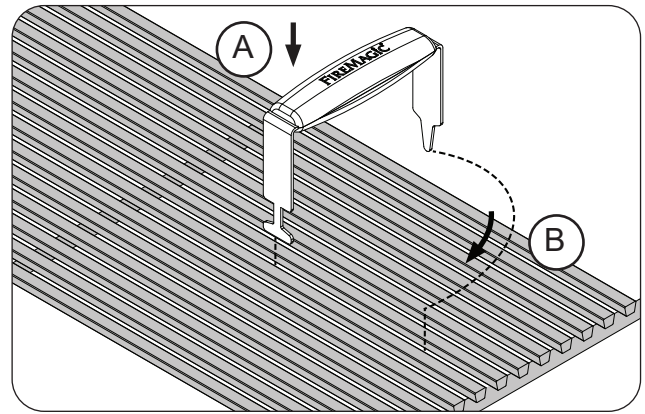
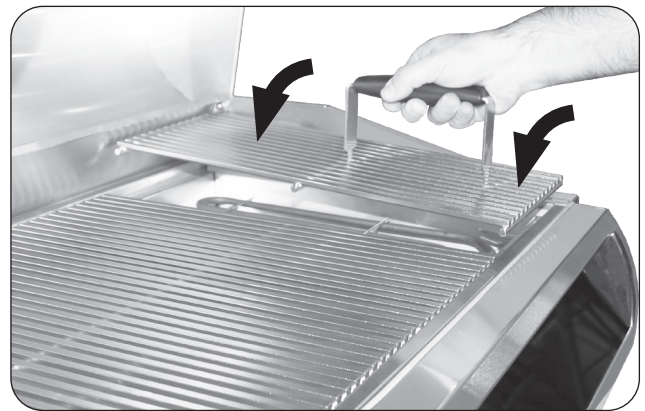

Fig. 30-1 Install cooking grids
Fig. 30-2 Install cooking grids
1. With the prongs facing downward, insert the notched-end of the lifter between two grid rods, then rotate, as shown in Fig. 30-1, A & B.
2. Insert the rear pointed-end of the lifter between the same two rods (Fig. 30-1, B) and carefully lift the cooking grid and place onto the front and rear grid rests of the grill (see Fig. 30-2). Repeat for all other cooking grids.